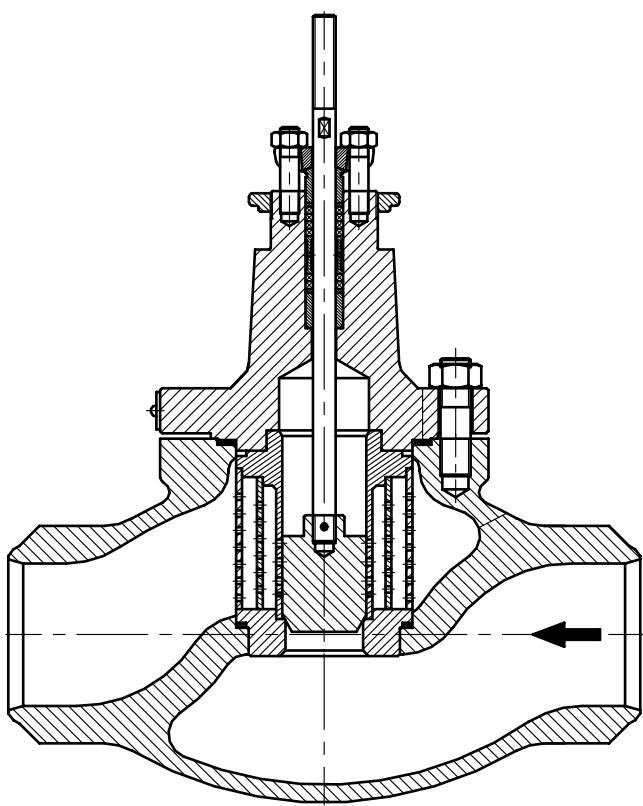

Fig. 1a. Valve - unbalanced plug.
**Fluid flow direction:** Under the plug for valves as per Fig. 1a and 1b, over the plug for valves as per Fig. 1 c
- perforated valve plugs (Fig. 1a, 1b and 1d)